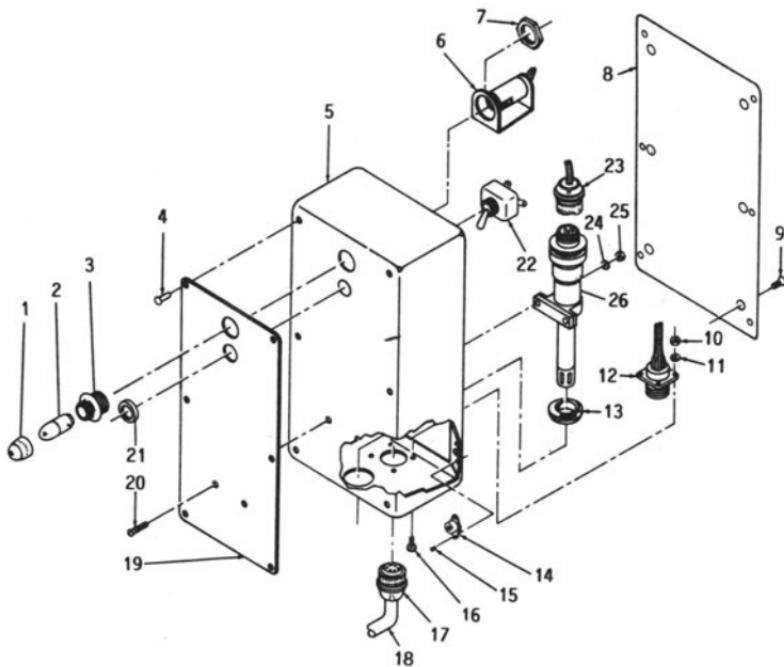

Figure 8. Remote control box assembly (exploded view).
- (1) Remove six screws (9, Fig. 8) which secure cover (8) to box assembly (5), and remove the cover.
- (2) Tag and disconnect plug connector (23) from remote thermostat (26).
- (3) Remove four screws (16), four washers (11), and four nuts (10) which secure receptacle (12) to box assembly (5), and remove the receptacle and the wiring harness assembly.
- (4) Remove two screws (20), two washers (24), and two nuts (25) which secure remote thermostat (26) to box assembly (5), and remove the remote thermostat.
- (5) Remove nut (21) which secures switch (22) to box assembly (5), and remove the switch.
- (6) Remove indicator light (2) (par. 80).
- (7) Remove nut (7) which secures socket (6) and indicator light holder (3) to box assembly (5), and remove the socket and the holder.
- (8) Remove grommet (13).
- (9) Remove six rivets (4) which secure instruction plate (19) to box assembly (5), and remove the instruction plate.